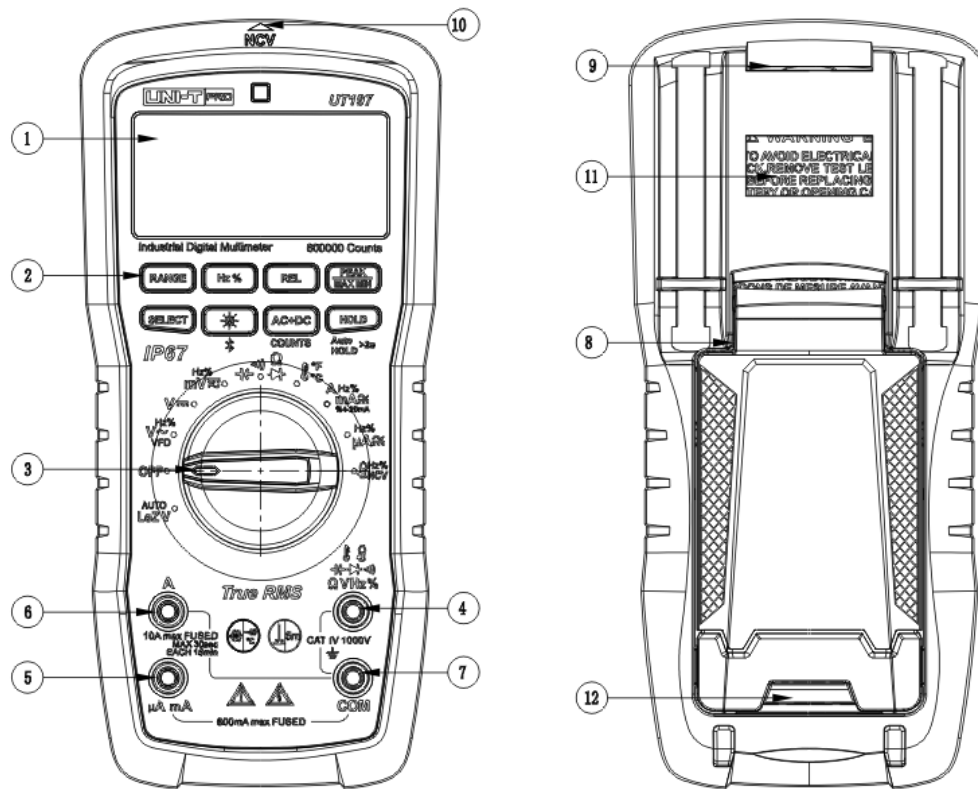

Figure 1
7. External Structure (Figure 1)